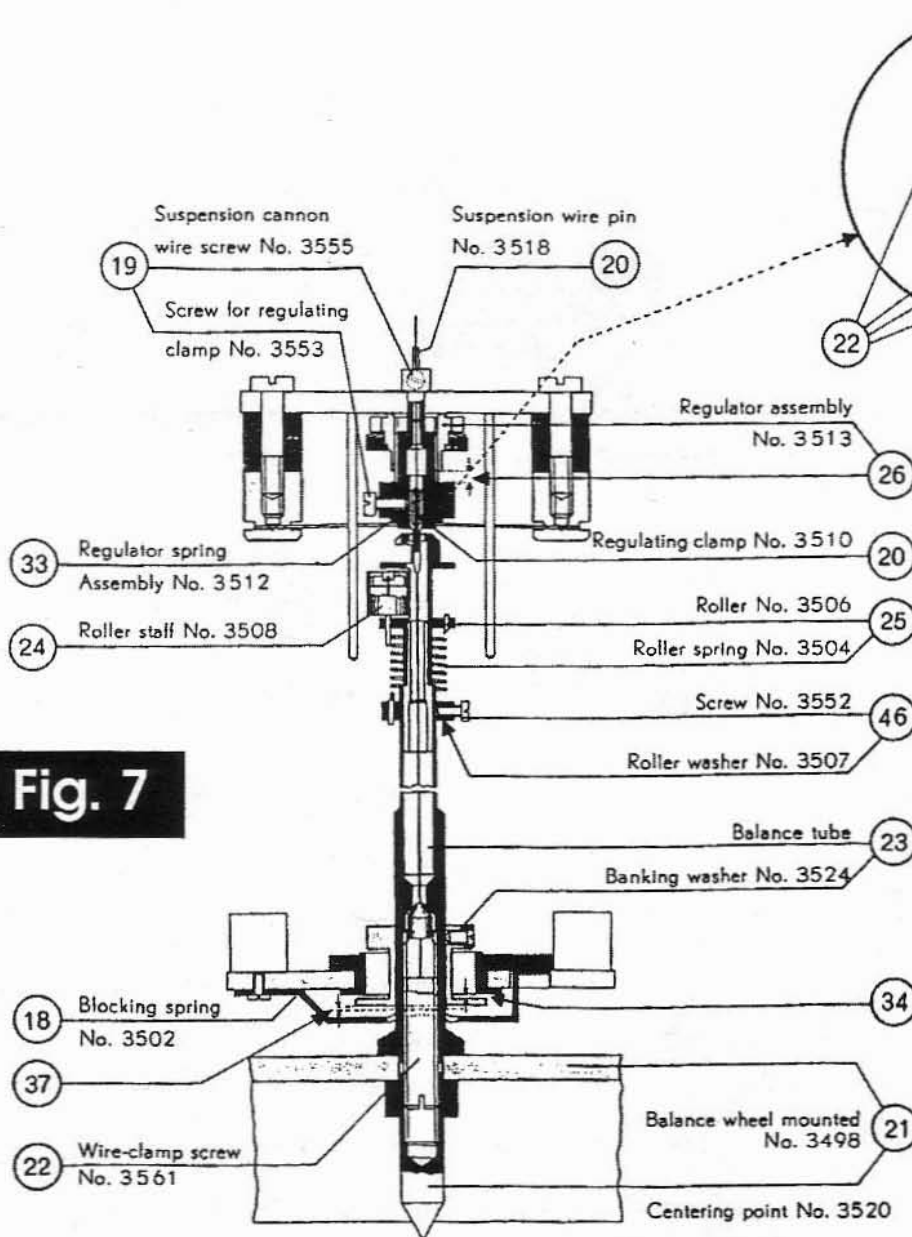

Fig. 7
Refer to fig. 7 when dismantling the balance and checking its component parts.
Assembling the balance (fig. 7)
- 46 Check whether the roller staff No. 3508 is correctly positioned. If this is not the case, rotate the roller No. 350 by turning the roller washer No. 3507 (tighten the screw No. 3552 securely). See fig. 7.
33. Lower the movement on the balance tube; the plate should be truly parallel to the flat face of the wire; guide the wire into the tube (tool No. 1, fig. 11), and the regulating clamp No. 3510 into the regulating spring No. 3512 (fig. 7).
34. To suspend the balance, raise it by pulling on the wire until the banking washer No. 3524 touches the lower bridge No. 3499. Insert the suspension wire pin No. 3518 into the suspension cannon, and press it firmly home, finally giving it a light blow with a hammer, which will make the wire slide and give the banking washer No. 3524 about 30/100 mm clearance from the lower bridge (fig. 7).
37. Put on the blocking spring No. 3502. With the blocking lever over to the left, the clearance between the spring No. 3502 and the banking washer No. 3524 should be about 40/100 mm (See fig. 7).